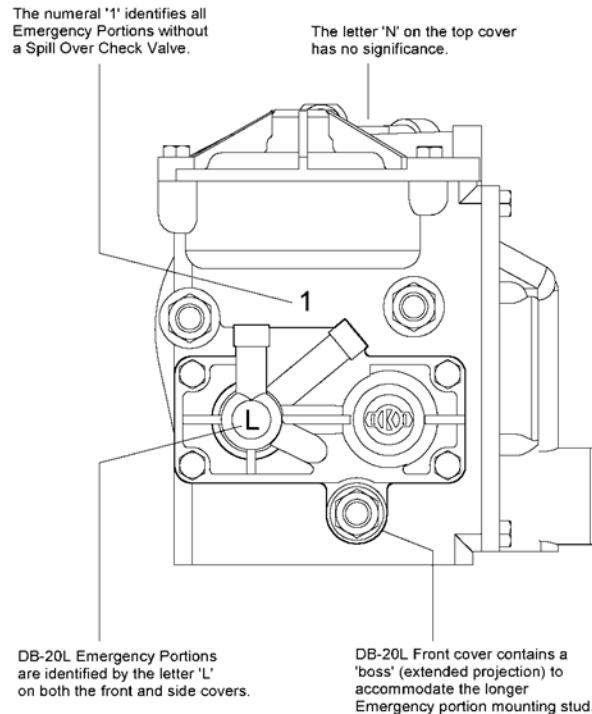
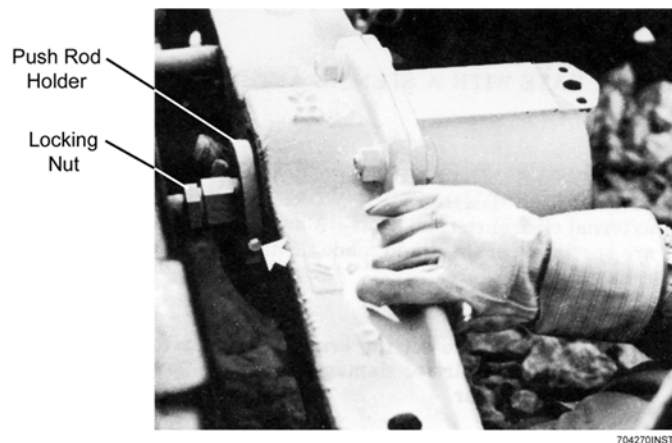

Figure 11: Instructions for DB-20 and DB-20L Emergency Portion Identification
Figure 14: Push Rod Holder and Locking Nuts
- 5.2.14** Dependent on the car length, an appropriate type of emergency portion, DB-20 or DB-20L, (identification see Fig. 11) must be available. A different lower stud on the pipe bracket ensures the appropriate portion. If in doubt of proper valve configuration consult Rule #4 of the AAR Field Manual of Interchanged Rules.
5.4.1.7 Push on beam so that it ends up as close to the bolster as possible. Use two wrenches to loosen push rod locking nut (Fig. 14). Unscrew and remove push rod (15) (Fig. 11) and place it on bolster.
Brake Cylinder Assembly (11) is under compressive load and will tend to "spring" toward the axle. Examine push rod holder (Figure 10) to determine that it is securely in place before removing nuts (14) (Figure 11) to prevent personal injury.
5.4.1.9 Remove nuts (14) and lock washers (13) from bolts (12). Remove cylinder assembly (11) from beam (1). Remove and discard gasket (10) from beam (1).
- 5.4.1.19 Remove spacing blocks and install brake shoes (3) onto beam (1) (If new shoes are being mounted, use only 1-1/4" or 1-1/2" thick shoes). Insert brake shoe keys (4) to hold brake shoes (3) to beams (1). Tighten push rod locking nut securely (See Fig. 14). Replace strainer (5), and gasket (6) and reattach BC hose (7) with bolts (8 & 9) and torque grade 5 bolts to 55 +/- 5 ft-lbs dry torque.